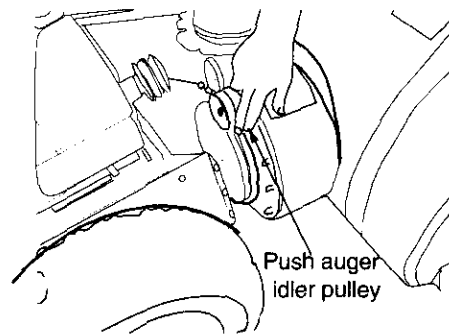

Figure 29
- To remove the front auger drive belt, push the idler pulley to the left. See Figure 29. The belt brake should move outward. Lift the front auger drive belt from the front auger pulley.